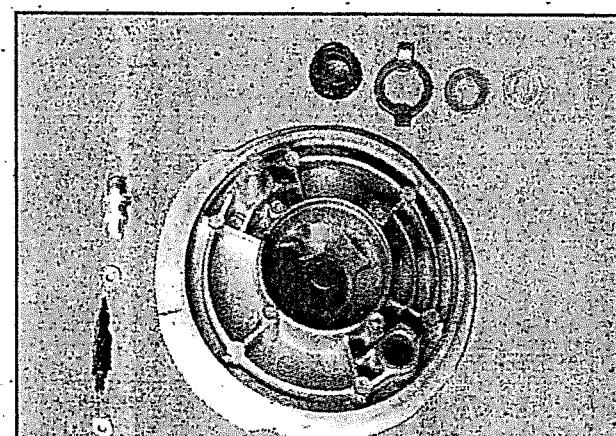

Fig 6.13
- Pull out the speedometer pinion (fig 6.13)